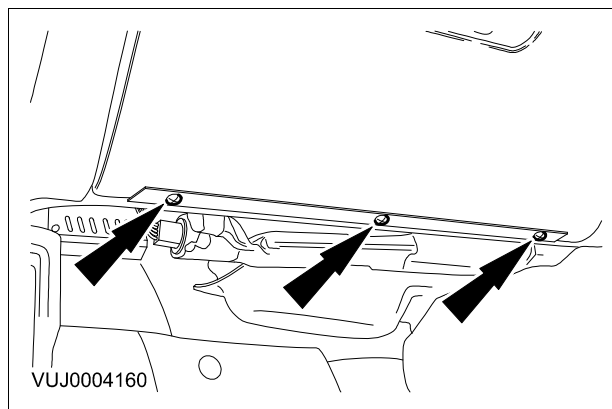

Fig. 1
- 6 Remove the glove compartment hinge retaining screws (see Fig. 1).